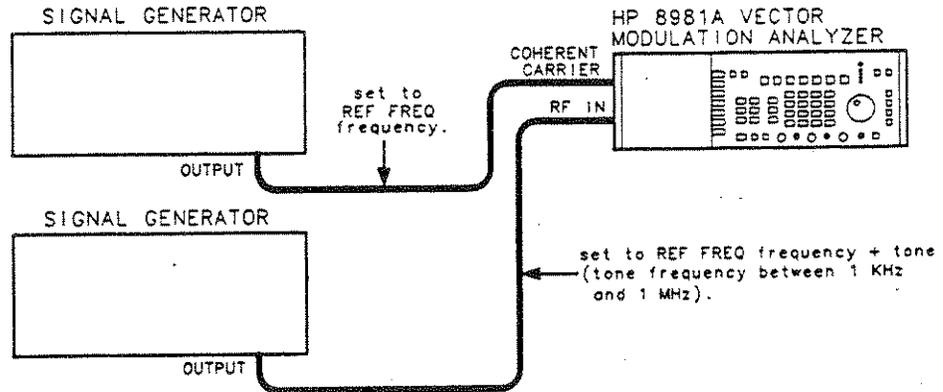
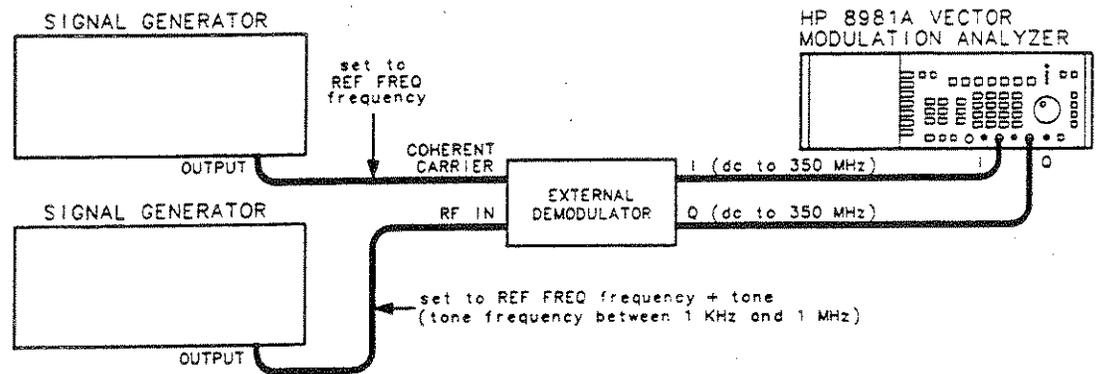

Figure 3-16. Equipment Setup - Internal Demodulator
Figure 3-17. Equipment Setup - External Demodulator
2. Set up the instrument and other equipment as shown in Figure 3-16 for the internal demodulator or Figure 3-17 if an external demodulator is used.